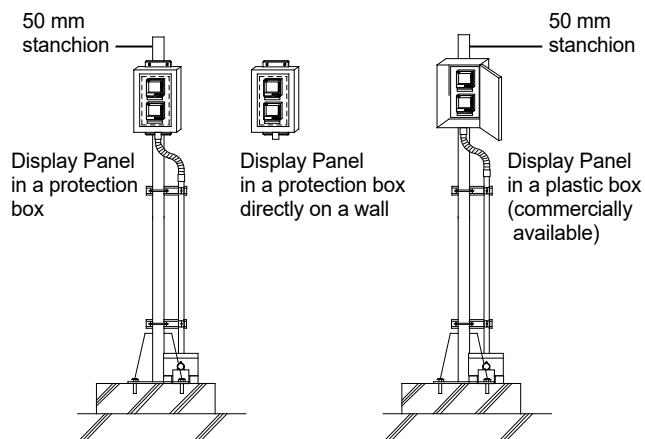

Figure 11. Display Panel installed outdoors (in a rainproof box)
- 6) Display Panel is generally installed on a visible position such as on a wall in a machine room or on a control panel cabinet. However, it may possibly be installed outdoors or in a ceiling. In such a case, install the Display Panel as shown in Figure 11 and Figure 11. Consider the conditions and requirements of your Display Panel installation and decide the location.